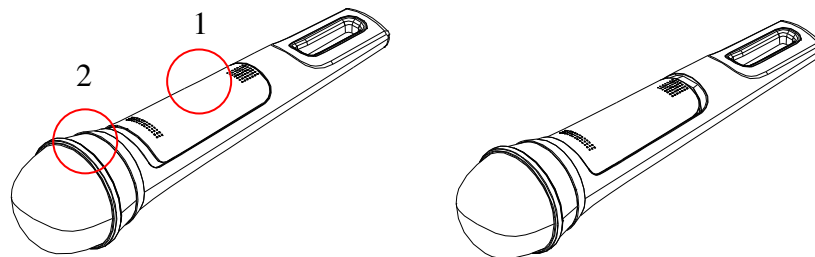

Figure 4.1
4.3.2 As shown in figure 4.1, press on where circle 1 indicates and push the battery cover forward to the end, then remove the cover (CAUTION: To avoid injury, do not place your fingers at where circle 2 indicates when pushing the cover).